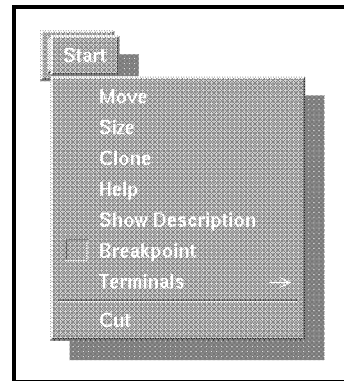

Figure 2-7. The Object Menu
2. Click the *right* mouse button. You'll see a menu pop up, as shown in Figure 2-7. This menu is called the **object menu**. The object menu contains a set of features that operate on that object. Every object has an object menu.